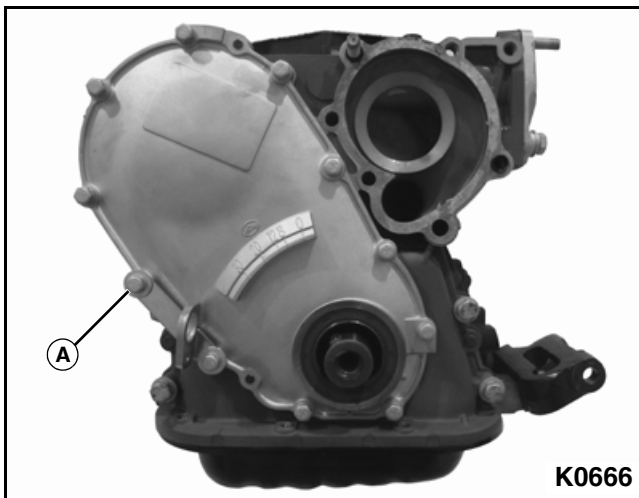

Figure 3-188
2. Install the timing chain cover to the timing chain housing and secure with eleven bolts, lock washers, and flat washers (A). **See Figure 3-188.**